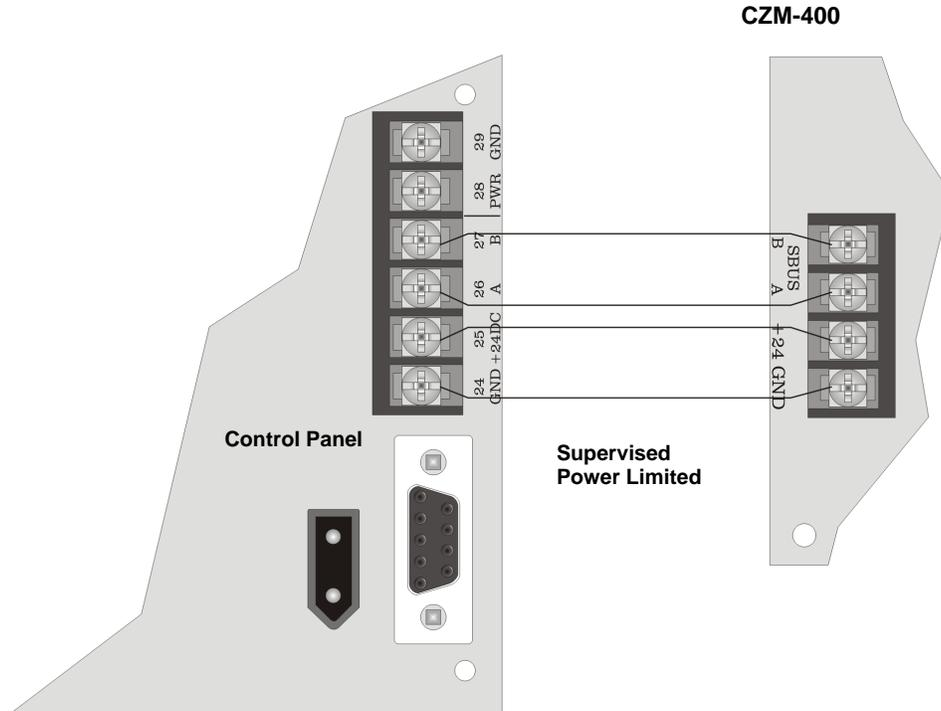

Figure 3-20 SBUS Connections
The Model CZM-400 provides the control panel with ten additional Class B (style B) zones or 5 Class A (style D) zones. The CZM-400 connects to the control panel via the SBUS as shown in Figure 3-20.
3. Connect the CZM-400 to the control panel as shown in Figure 3-20.
4. Connect the CZM-400 to the control panel as shown in Figure 3-20.